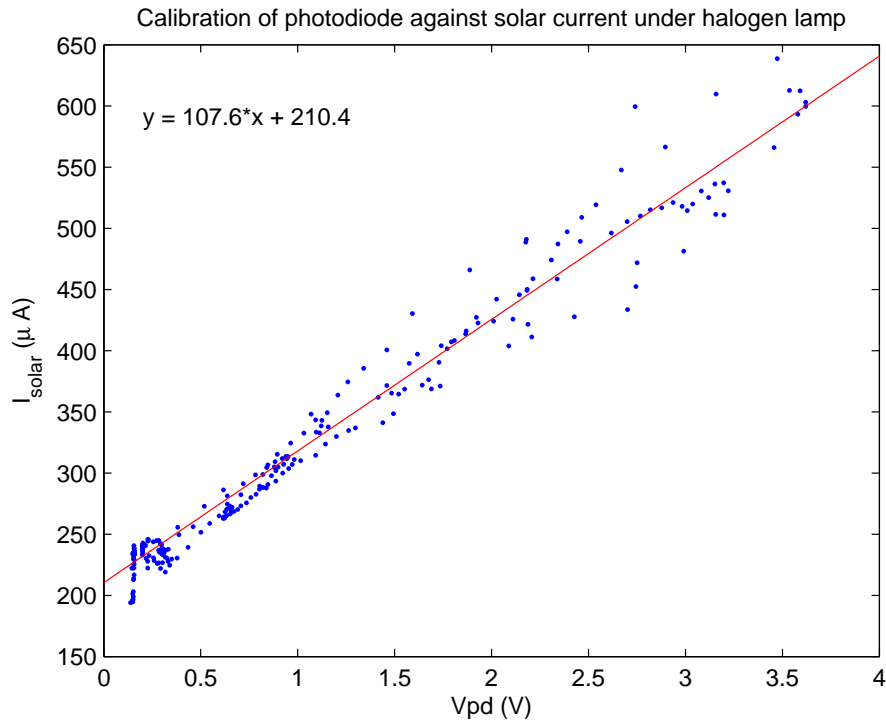

Figure 4: Photocurrent as a function of op-amp voltage.
light uniform over the area of the solar cell and photodiode. Data is saved within the file *data\_2015\_10\_27.csv* within the *data* folder. The data is shown in Figure 4.
- Why is there a y-offset when calibrated against the op-amp voltage (Figure 4)?